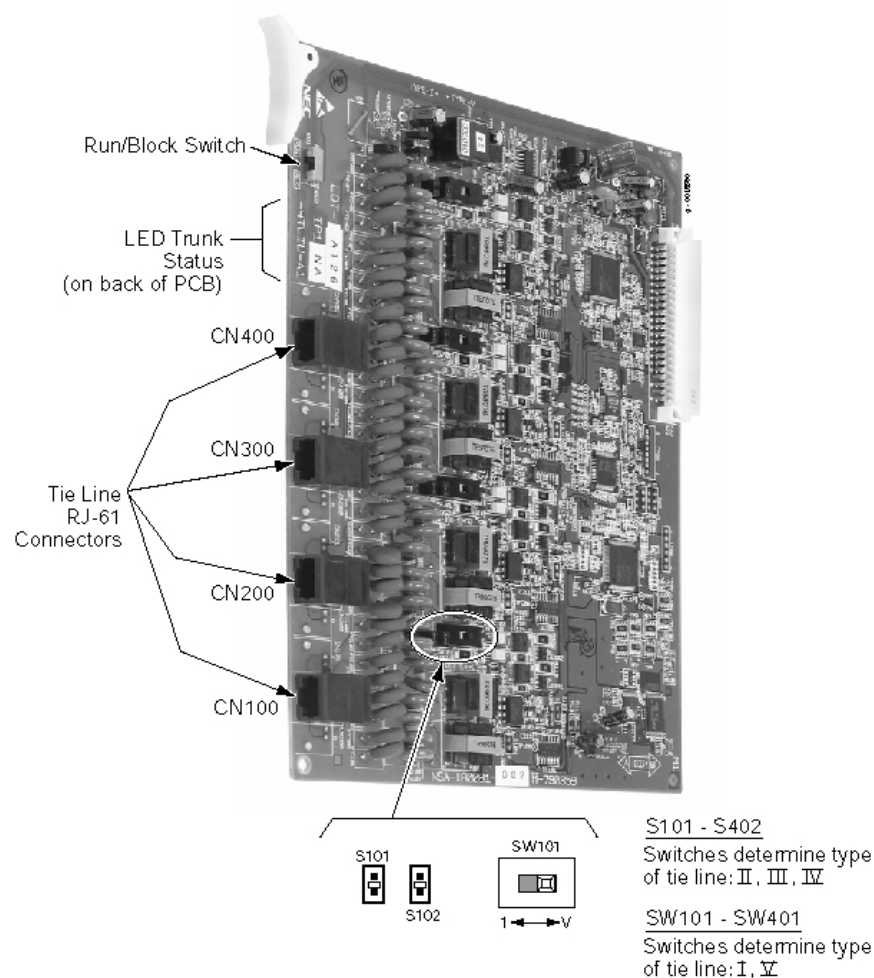

Figure 2-14: 4TLIU TIE LINE PCB INSTALLATION
Tie Line (4TLIU) PCB (Figure 2-14)
2. Set the straps for either the 2-wire or 4-wire (see Figure 2-14).